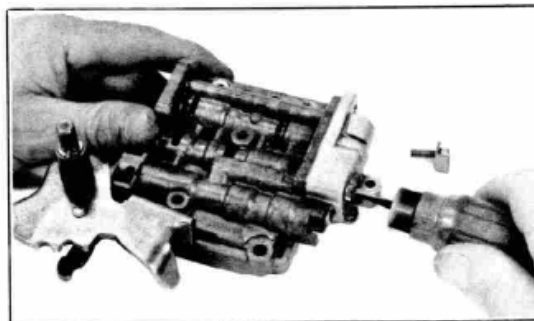

Figure 11
15. Remove the three screws holding the front servo exhaust valve assembly over the compensator valve and detent plug in outer valve body, Figure 11, and remove the front servo exhaust valve assembly.